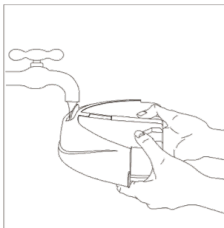

FIGURE 10
2. Open the Water Inlet Cover and drain the water tank (Figure 10).